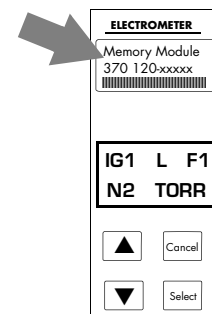

Figure 4-4 Electrometer Module with Memory Module Installed
2. With the Controller powered off, install the Memory Module (see Figure 4-4).